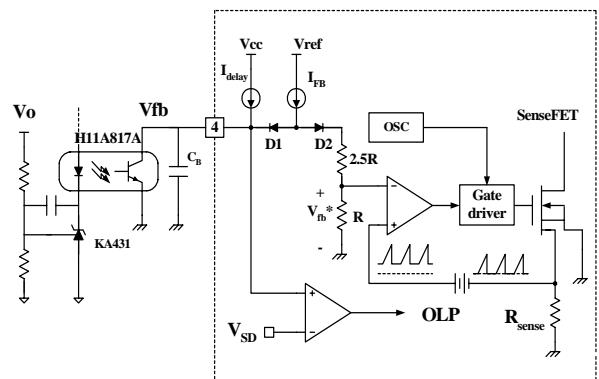

Figure 11. Pulse Width Modulation (PWM) Circuit
3. Feedback Control: The FSCQ-Series employs current mode control, as shown in Figure 11. An opto-coupler (such as Fairchild's H11A817A) and shunt regulator (such as Fairchild's KA431) are typically used to implement the feedback network. Comparing the feedback voltage with the voltage across the Rsense resistor plus an offset voltage makes it possible to control the switching duty cycle. When the reference pin voltage of the KA431 exceeds the internal reference voltage of 2.5V, the H11A817A LED current increases, pulling down the feedback voltage and reducing the duty cycle. This event typically happens when the input voltage is increased or the output load is decreased.
3.1 Pulse-by-Pulse Current Limit: Because current mode control is employed, the peak current through the SenseFET is limited by the inverting input of the PWM comparator (V_{fb}^*) as shown in Figure 11. The feedback current (I_{FB}) and internal resistors are designed so that the maximum cathode voltage of diode D2 is about 2.8V, which occurs when all I_{FB} flows through the internal resistors. Since D1 is blocked when the feedback voltage (V_{fb}) exceeds 2.8V, the maximum voltage of the cathode of D2 is clamped at this voltage, thus clamping V_{fb}^* . Therefore, the peak value of the current through the SenseFET is limited.